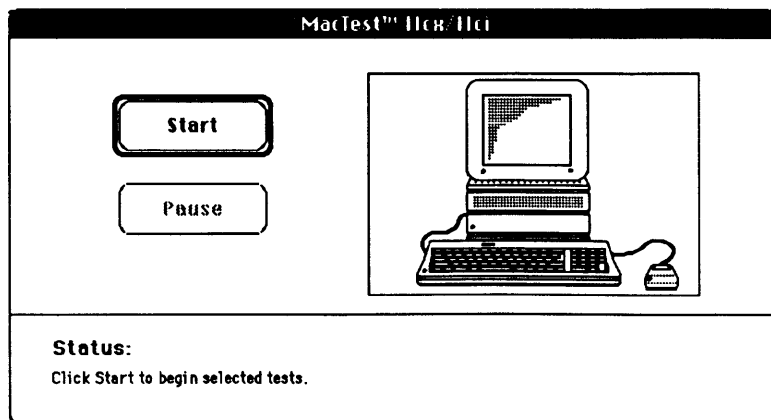

Figure 3-1 MacTest IICX/IICI Status Window
3. Insert the *MacTest IICX/IICI* disk into the internal drive, and switch on the system. *MacTest IICX/IICI* will display the Status window (**Figure 3-1**). Click **Start** to run the tests.